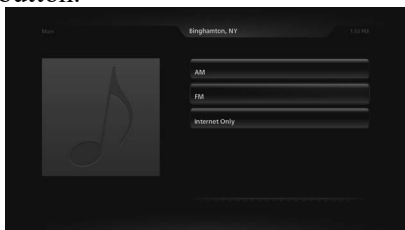

Figure 23
- There are now menu choices AM, FM or Internet only radio stations. Referring to figure 23, use the + (Up) or - (Down) Push-button to select FM, followed by pressing the the ►|| (SELECTS) Push-button.